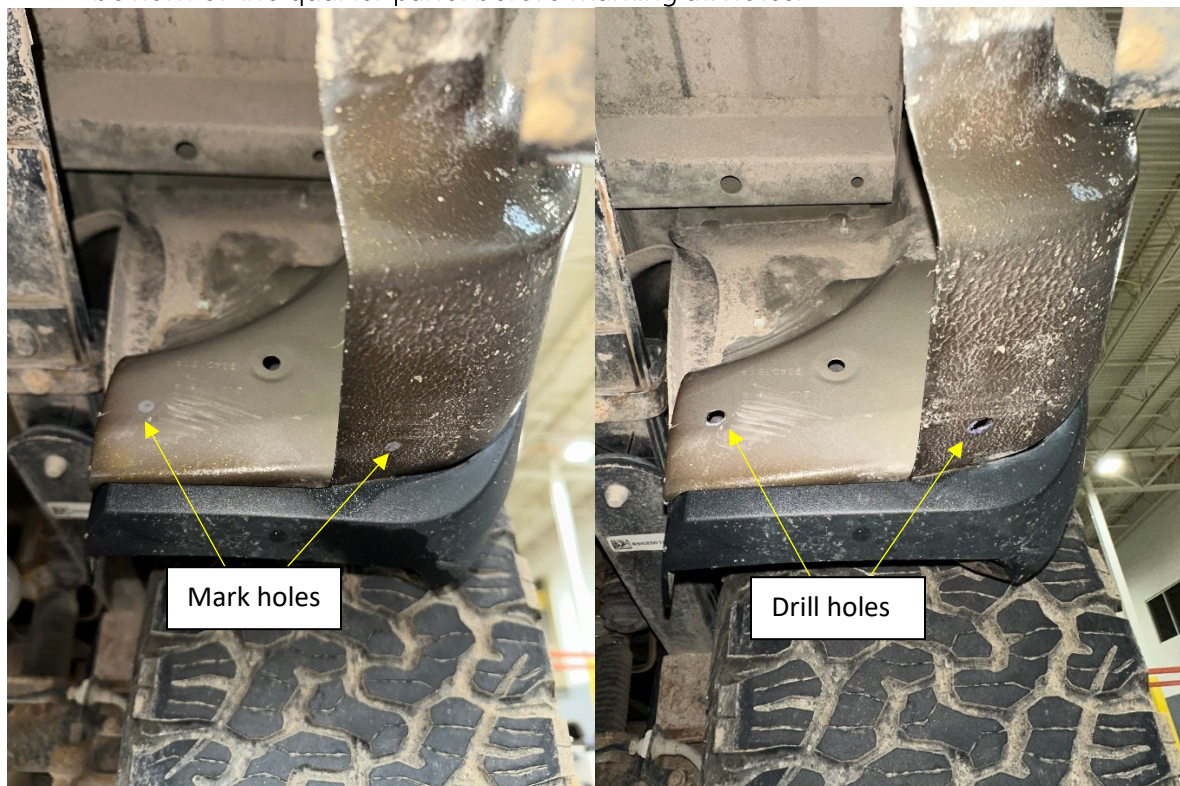

Figure 6
2. Once your bracket is loosely attached, mark the 2 holes (one vertical and one horizontal) for drilling. Remove the bracket and drill marked holes with an M10 or 3/8" drill bit. (Figure 6).